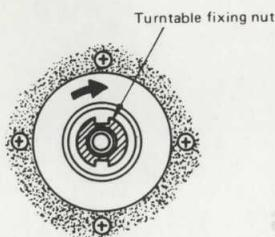

Fig. 7
1) Remove turntable fixing nut by using the supplied wrench. To remove nut, turn it clockwise. (See Fig. 7)